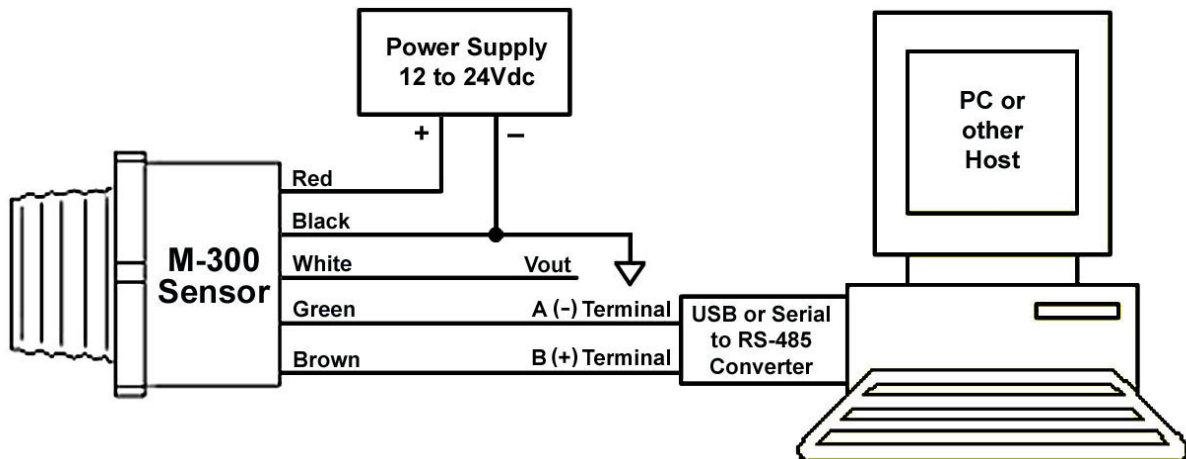

Figure 3
- With the 12-24 V DC Power Supply turned OFF, connect it to the red and black leads of the M-300 Sensor, as shown in Figure 3.
Wire the M-300/M-320 Sensor to the RS-485 Communication Converter as shown in Figure 3 in Section 2. The converter’s terminal for the green wire of the sensor will be marked as TDA, A (-), or some combination for the A terminal wiring. The converter’s terminal for the brown wire of the sensor will be marked as TDB, B (+), or some combination for the B terminal wiring. If the converter has any of the switches shown below, set to the following positions:
Once the software has been installed, connect the M-300/M-320 to the computer, as shown in Figure 3 of Section 2, and then execute the M300.exe program.